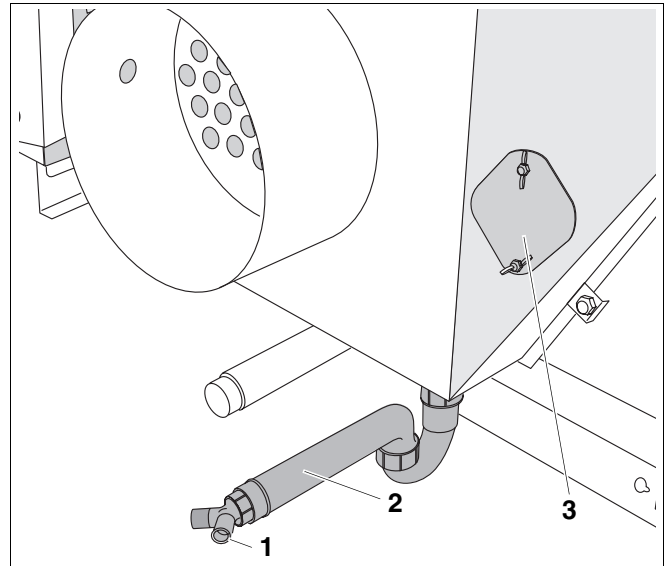

Fig. 27 Condensate
- Connect the drain hose to the connector (Fig. 27, **Item. 1**) of the condensate drain (Siphon) (Fig. 27, **Item. 2**) using a hose clip. When using  $\varnothing 1\frac{1}{2}$ " pipe remove the tee piece on the siphon with a saw.
Prior to placing the boiler in operation, put 3 or 4 gallons of water in the clean-out opening or combustion chamber to fill the drain in the condensate drain line (Fig. 27, **Item. 3**).
Check to make sure the condensate drain does not get plugged (Fig. 27, Item. 2.).
- Check and possibly clean the flue gas collector and the condensate drain through the clean-out cover (Fig. 27, **Item. 3**).